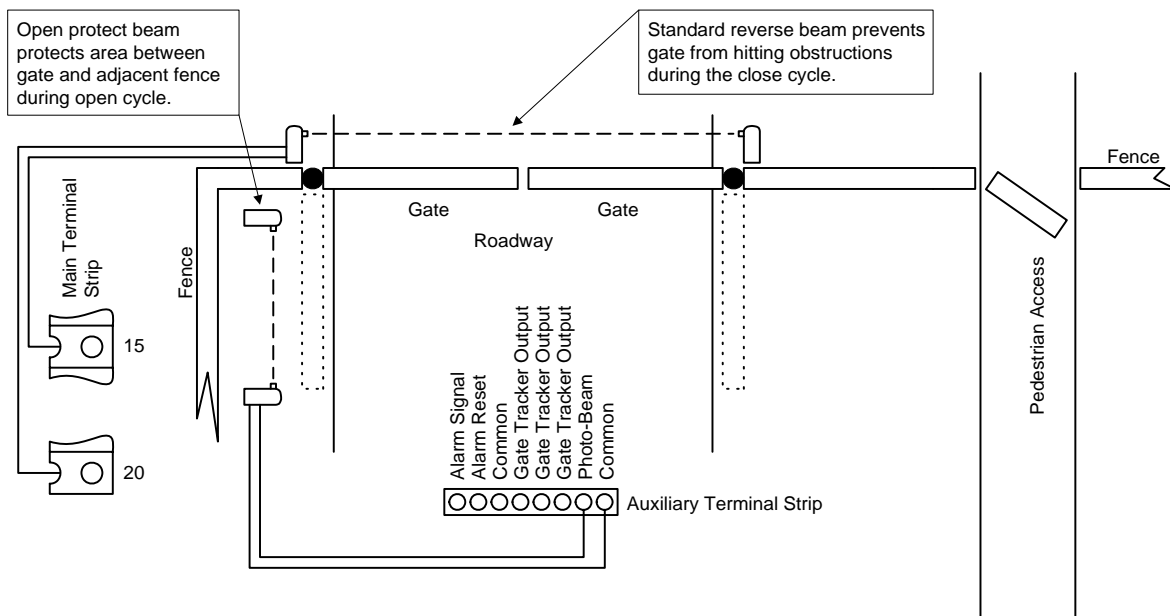

Figure 27
- See Figure 27 for suggested placement of sensors. (Diagram is for illustration purposes only. Actual placement of sensors is dependent on the installation requirements).